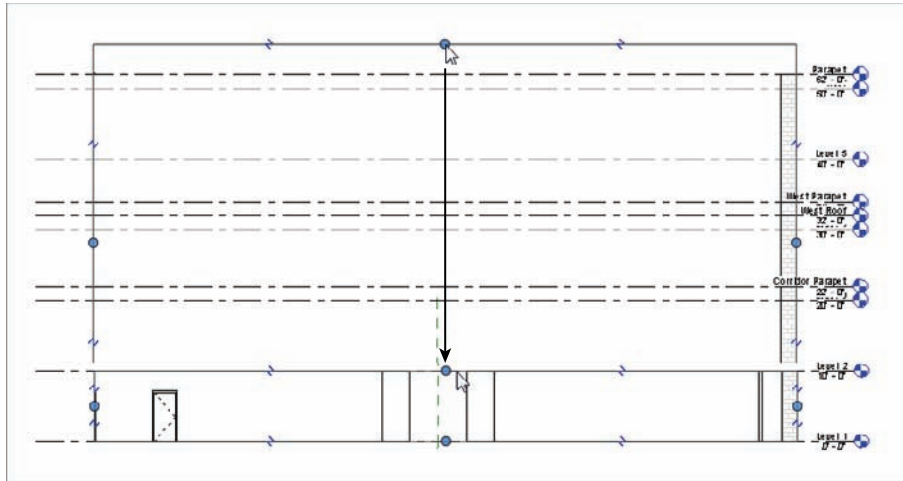

FIGURE 3.80 Stretching the grip down to crop the view
9. Notice that the crop region extends all the way up to the parapet. Select the crop region and drag the top down to Level 2, as shown in Figure 3.80.